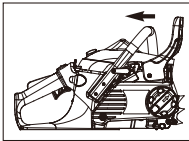

Fig. 3A
2. Make sure the CHAIN BRAKE® lever is pulled back into the DISENGAGED position. (Fig.3A)